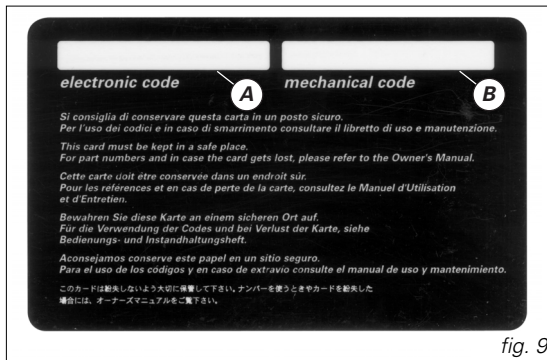

fig. 9
A) (fig. 9) the electronic code to be used to be used in case of engine block, i.e. bike did not start after **key-ON**.
B) (fig. 9) the part no. code for the keys to be reported to the DUCATI Service network when you are ordering any duplicate keys.